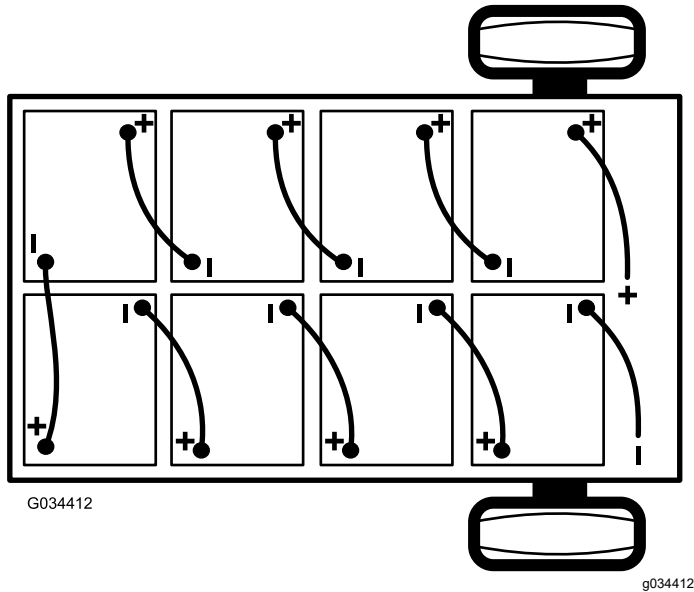

Figure 43
2. Disconnect the main negative-battery cable (black) that connects the bank of batteries to the ground point of the machine (Figure 43).
3. Disconnect the main positive-battery cable (red) that connects the bank of batteries to the main contactor of the machine (Figure 43).
Note: Pay attention to the battery polarity when installing the new batteries (Figure 43).
6. Connect the batteries together as shown in Figure 43 with the battery-interconnect cables that you removed in step 1.
2. Connect the main positive-battery cable (red) between the bank of batteries and the machine (Figure 43).
3. Connect the main negative-battery cable (black) between the bank of batteries and the machine (Figure 43).